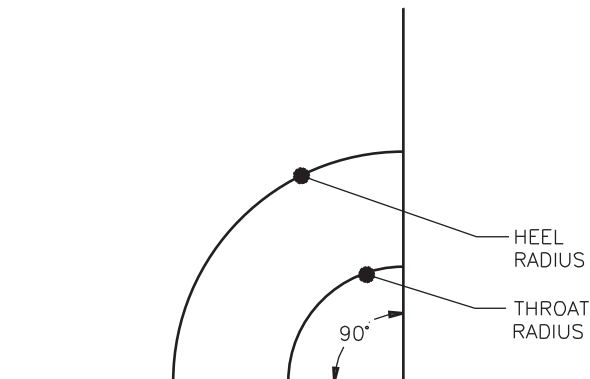

Fig. 28-5
4. Create and identify the radii of the sheet metal elbow shown in Fig. 28-5. First draw the perpendicular lines, and then create two arcs: one with a radius of 1.5 and the other with a radius of 3. Then dimension the 90° angle and add the notes. Before you create the leaders, open the **Multileader Style Manager** and change the arrowheads to dots. Add the text as shown, and save the drawing as **elbow1.dwg**.